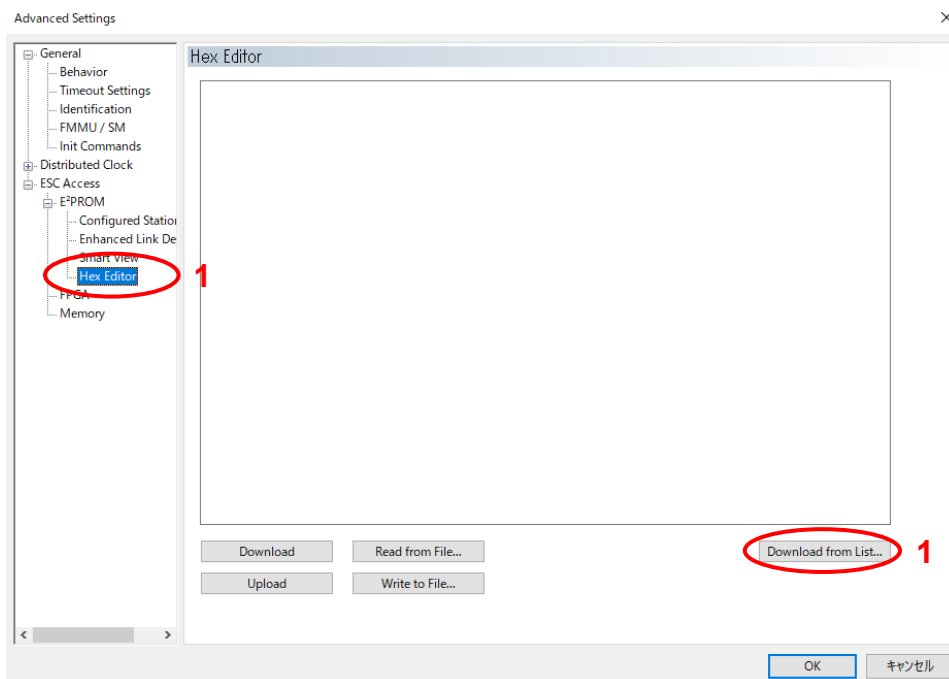

Figure 6-6 Selecting the hex editor for EEPROM file download
Then expand the list of advanced settings accordingly, so that you can select the “Hex Editor” (1). In the “Hex Editor” view click “Download from List” (2) (See Figure 6-6). This list contains numerous devices for which the required EEPROM content is ready to use.
The data is then downloaded to the EEPROM; at the end of the download process the data is automatically verified. With “Upload” (see Figure 6-6) you can check, whether the EEPROM programming was successful.